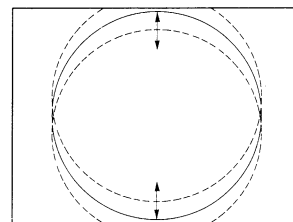

fig. 3
- Adjust the vertical size to obtain overscan (fig. 3).